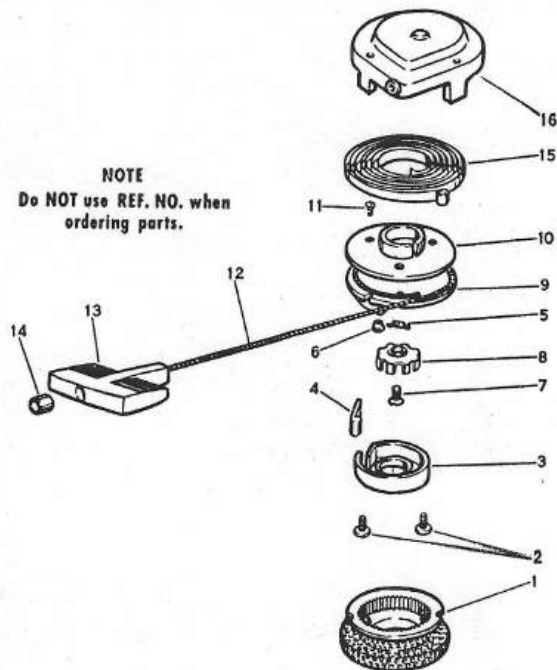

Figure 27
1. The entire starter unit can be removed from the engine as an assembly. (See Figure 27.) However, when removing the brake screw No. 7, hold the pulley assembly No. 10 in position with one hand to avoid the loss of the spring No. 15.